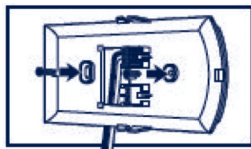

Fig 1.3
4. Mount the base on the wall and make sure the hole on the wall is covered by the base with wires coming in through the base plate cover hole. (See Fig 1.3)